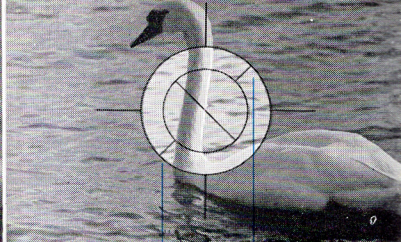

Fig. 9
glass screen which has a split-image rangefinder in the centre. This is formed by two crossed prisms which appear as a pair of semi-circles; they are surrounded by a ring of completely transparent glass (diameter 5 mm.) Select a specific detail in the subject to be photographed and then adjust the helical focusing mount of the lens until the two semi-circular images are in perfect alignment, with no displacement at the dividing line. At this point the image will be perfectly focused (fig. 9).
The clear glass ring makes it possible to inspect the **aerial image**, which may lie either in front of or behind the plane of the ground-glass screen and will still appear visually sharp. It can however be used for the rapid location of important details on which the image can be focused. The clear glass ring can also be used for focusing when taking photomicrographs, the image being in perfect focus when the aerial image and one of the two lines (Q) shown in figure 9 appear equally sharp. This is the only method of ensuring that the image is located exactly in the focal plane.